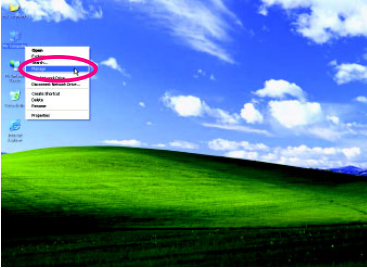
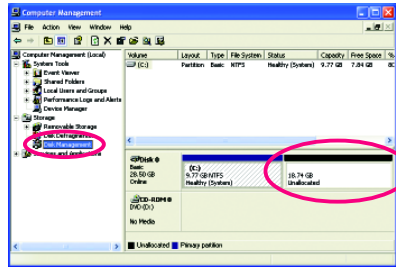

Figure 4
Figure 5
- After the operating system is installed, right-click the **My Computer** icon on your desktop and select **Manage** (Figure 4). Go to **Computer Management** to check disk allocation. Xpress Recovery2 will save the backup file to the unallocated space (black stripe along the top)(Figure 5). Please note that if there is no enough unallocated space, Xpress Recovery2 cannot save the backup file.